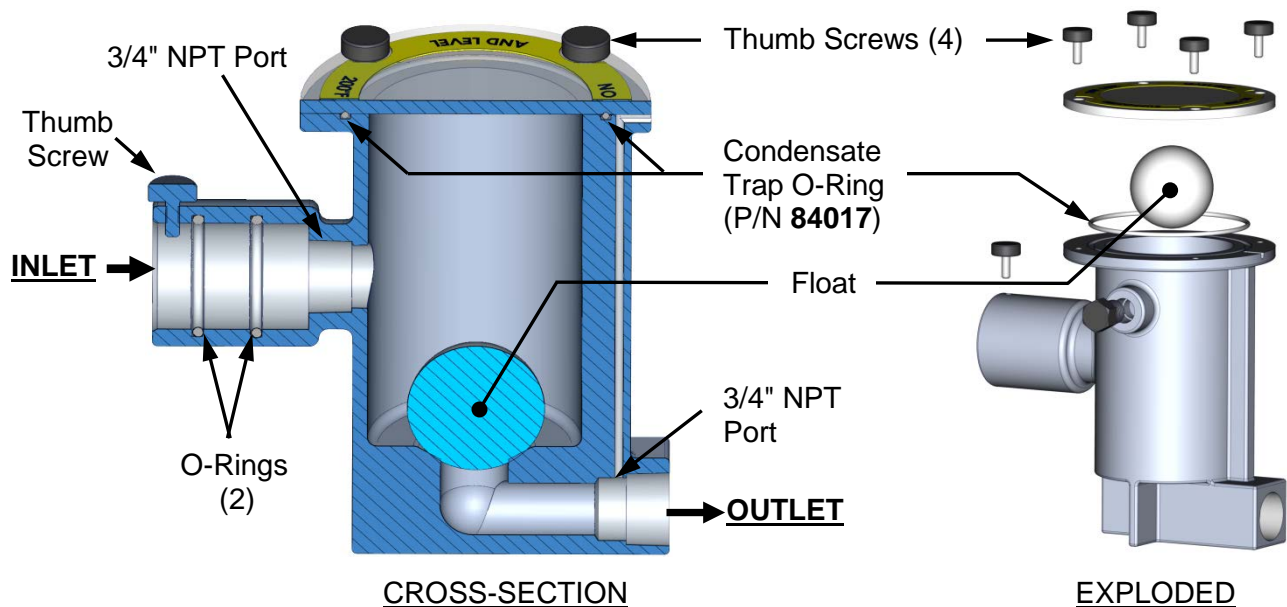

Figure 6-9. External Condensate Trap – Cross-Section & Exploded View
1. Disconnect the external condensate trap by loosening and then removing connections on the inlet and outlet sides of the condensate trap (see Figure 6-9).
2. Loosen the four (4) thumbscrews securing the trap's cover and then remove the cover and the O-ring from under the cover.